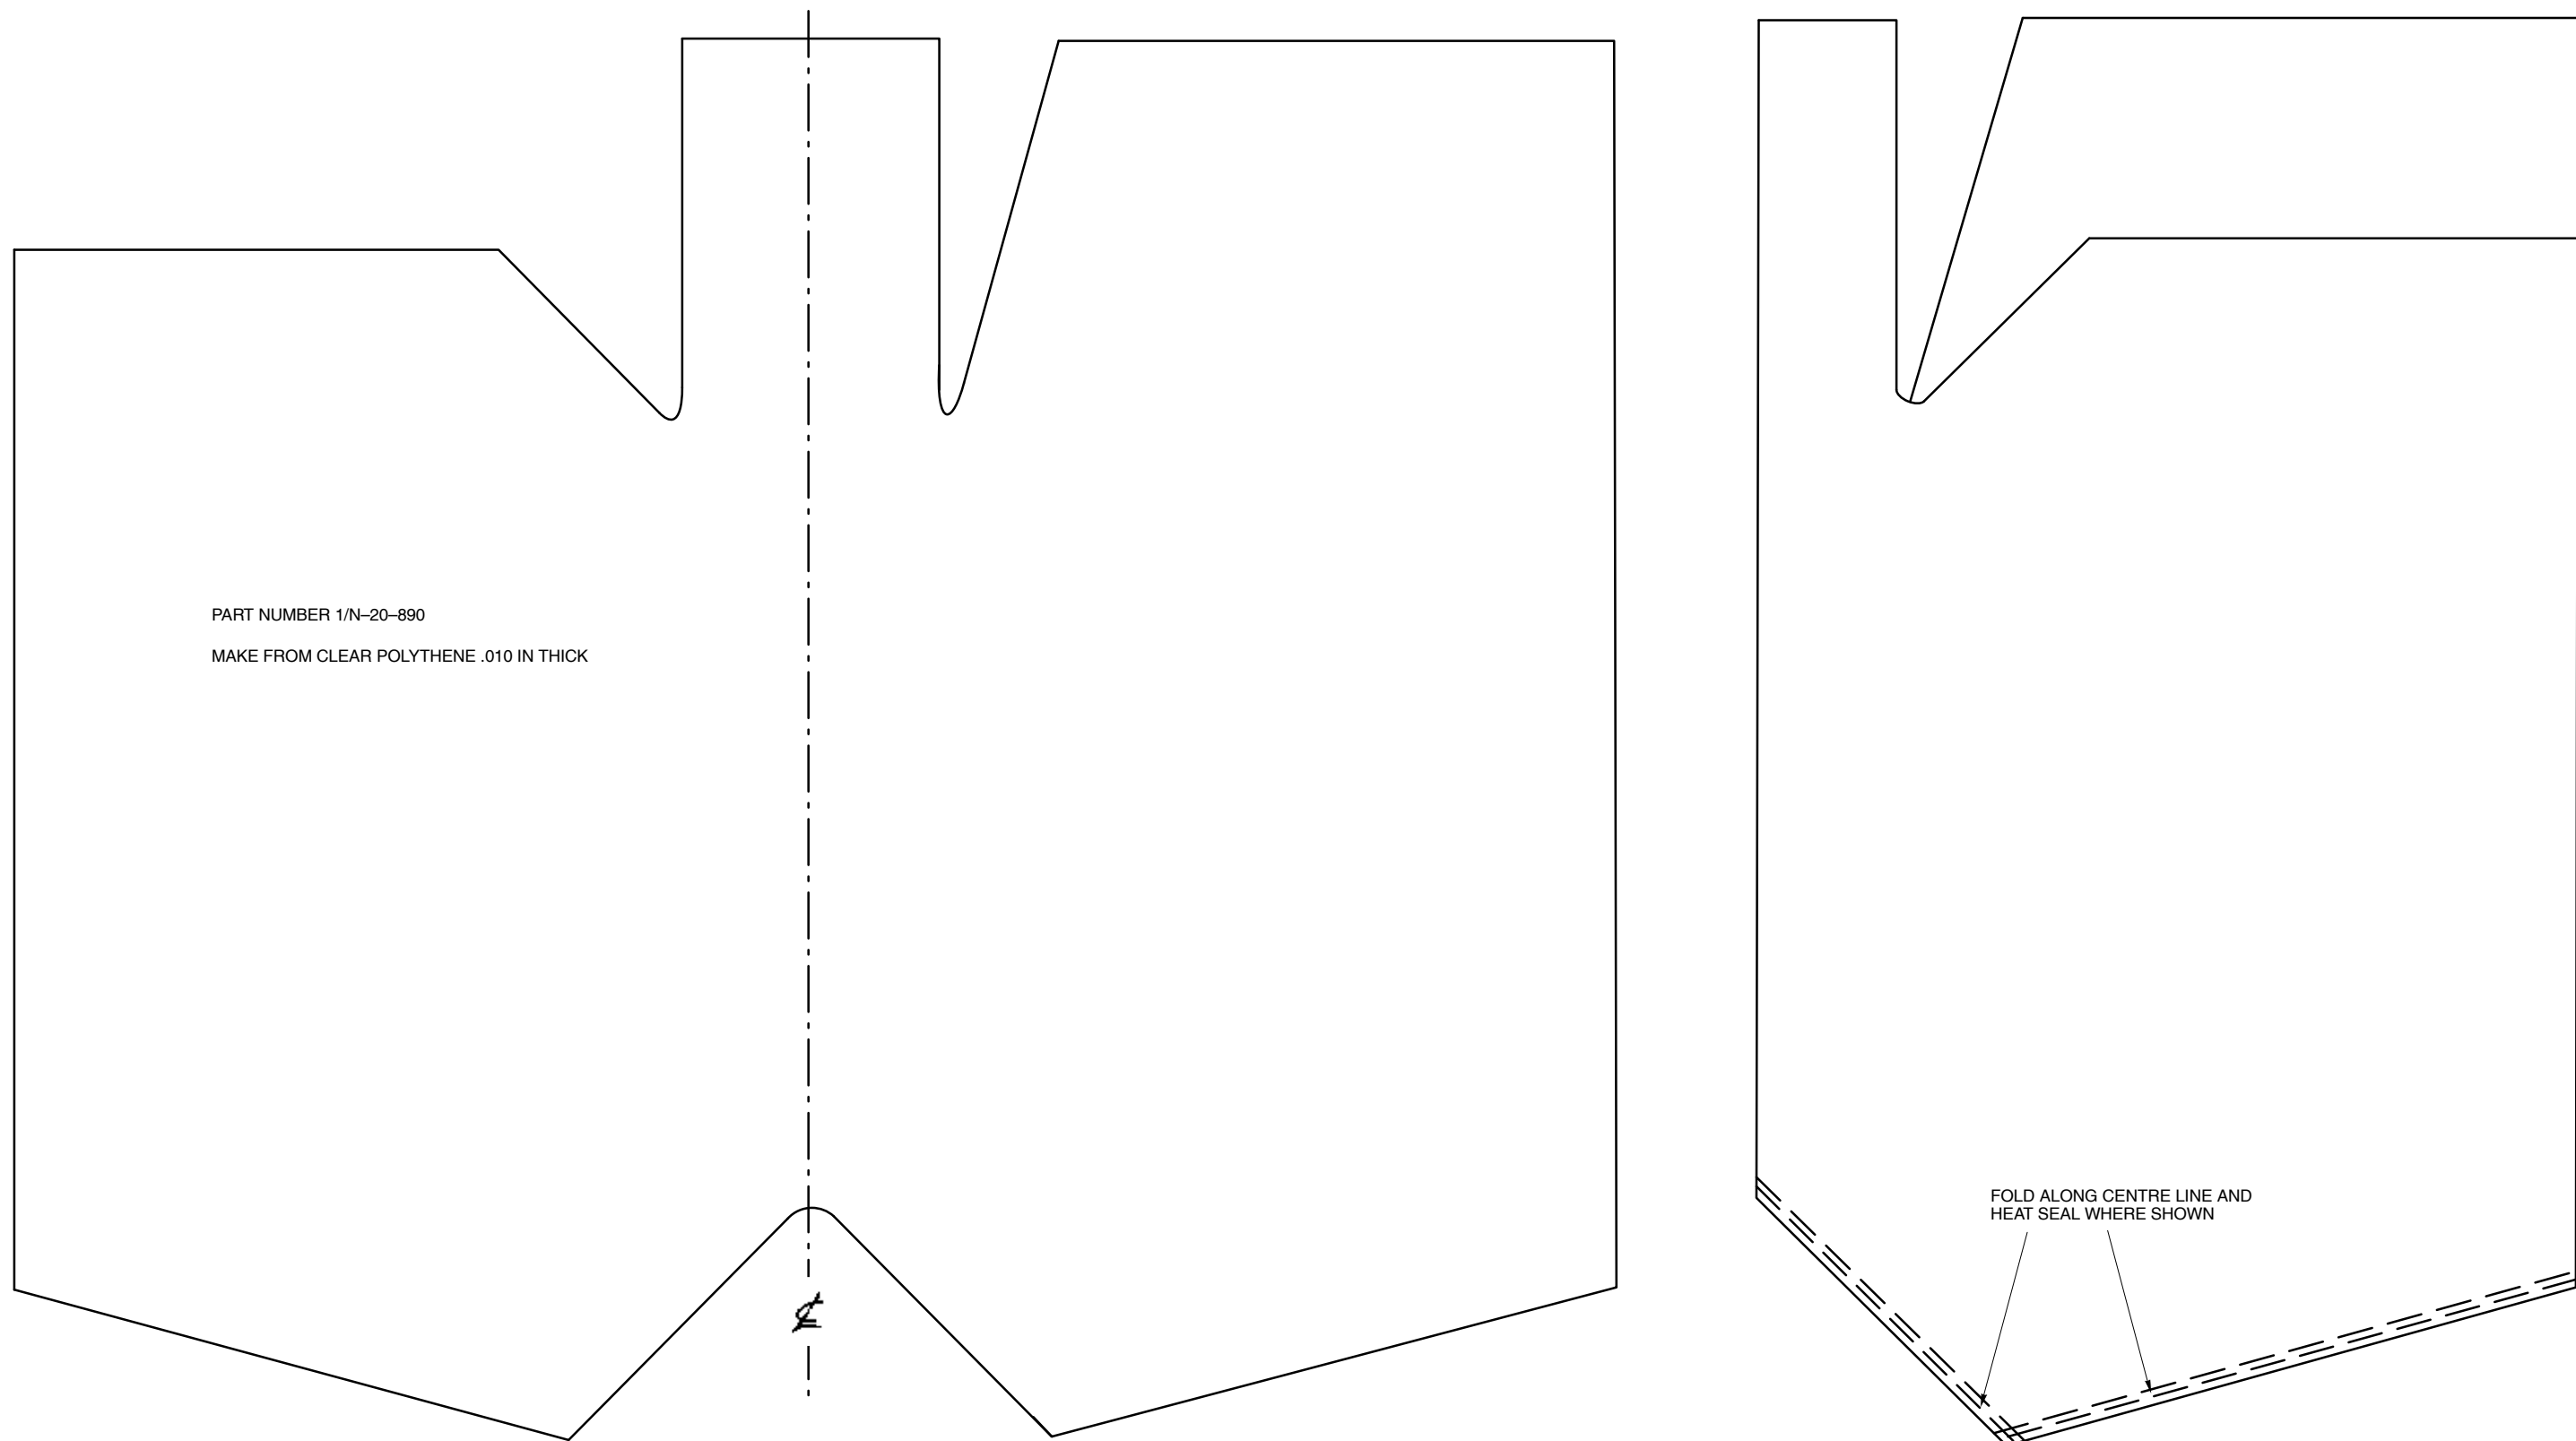

Figure 2 Pattern for Making Microswitch Cover
- A. Manufacture a plastic cover from clear polythene 0.010 in thick as shown in Figure 2.